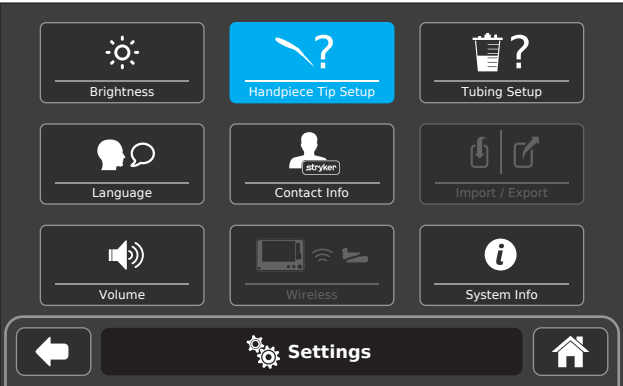

Figure 40 – Handpiece Tip Setup Selection
2. From the system SETTINGS screen, touch the HANDPIECE TIP SETUP button (Figure 40).